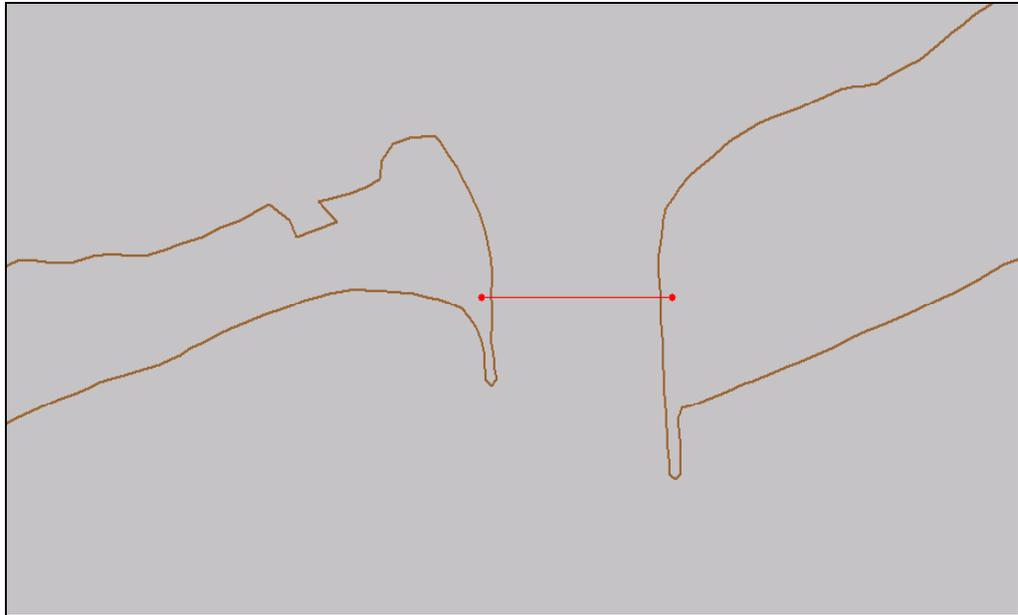

Figure 5-11. The location of the feature arc.
4. Zoom into the inlet and create an arc across, starting just to the left on the barrier island and ending just to the right on the barrier island, as shown in Figure 5-11.